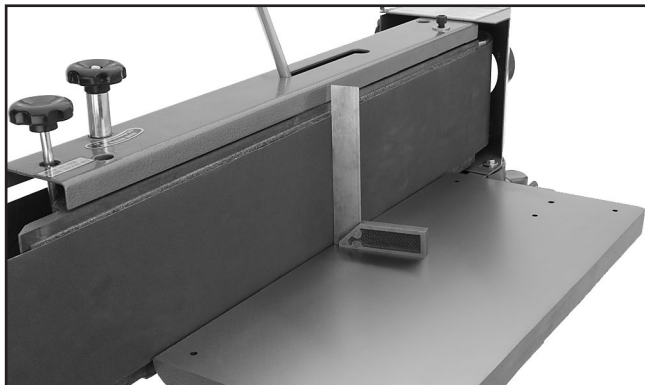

Figure 24. Squaring main work table.
15. Place one edge of a square against the work table and the other against the sanding belt and platen, as shown in **Figure 24**.